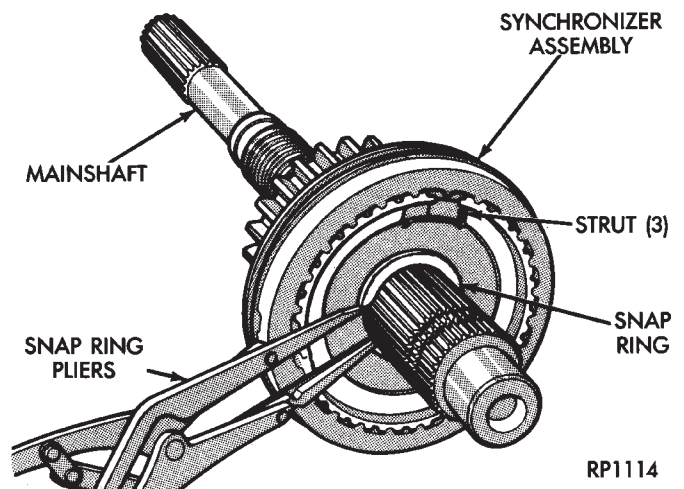

Fig. 13 Synchro Hub Snap Ring Removal/Installation
(24) Remove synchro hub snap ring (Fig. 13).